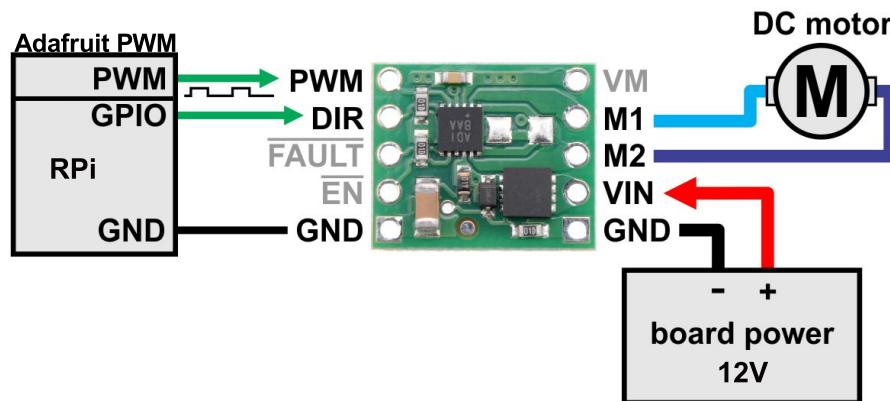

Figure 19: The Motor Driver board and PWM interface diagram. From <https://www.pololu.com/product/2961>
The motor drivers are responsible for controlling the amount of power delivered to the motors, as well as which direction they spin. The MAX14870 (Maxim Integrated Co.) accepts a number of different inputs but our application only uses four: the PWM input, the direction input and power and ground for the motor (figure 19). The PWM comes from the Adafruit PWM driver, while the direction control comes from one of the pins (GPIO) on the RPi. When the joystick is moved from the dead zone3, a value proportional to the displacement of the joystick is generated. Since the PWM has 12 bits of resolution (meaning it has 4096 ( $2^{12}$ ) levels from off to on), numbers from 0 to 4095 represent the levels from fully off (0) to fully on (4095). For instance, if the gamepad joystick is moved halfway between the center position and fully engaged, the value from the joystick will be 2048, and the pulse width proportion will be 50%, or half power. This pulse waveform goes into the MAX14870 where the H-bridge4 pulses 'on' half the time and 'off' half the time, creating the effect of half power. You most likely performed this exact same technique when driving your SeaPerch for the first time, essentially toggling the switches back and forth (pulsing) to change the speed of the vehicle to gain a bit more fine control.